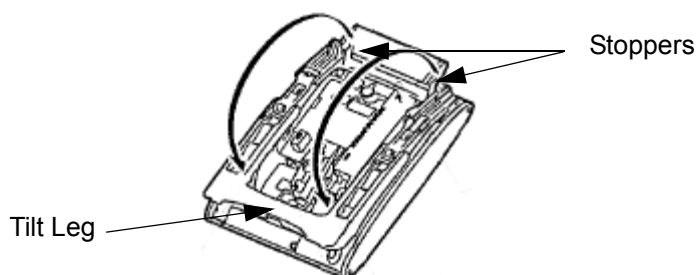

Figure 5-133 Separate Tilt Leg from Leg Support
- ☞ *Only one BCH-L (BK) UNIT can be attached to the DTL multiline terminal.*
3. Lower the tilt leg to the first position (refer to Figure 5-133 Separate Tilt Leg from Leg Support).
5. Lower the tilt leg to the first position (refer to Figure 5-133 Separate Tilt Leg from Leg Support).